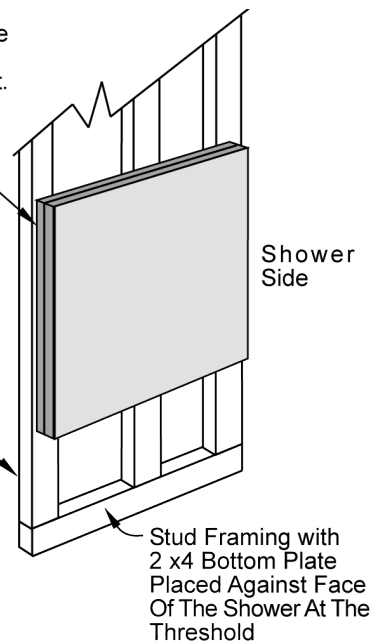

Figure 2
3. Factory wood backing is provided inside the wing wall for field installation of a fold up seat. If field installing a seat to the wing wall, Praxis recommends using wood 2 x 6 studs to support the wing wall. Metal studs may be used in other framing locations, other than the wing wall. Praxis is not responsible for structural integrity if 2 x 6 wood studs are not used for the wing wall. (See figure 2)
Locate and attach the studs to the floor, and to the top structure of the shower framing structure. The framing for the wing wall should tie in with the top framing above the shower. Keep stud work clear of the vertical flange of the shower. Provide so that top flange on the wing wall may be attached to the studs. Add wood between studs and wing wall backing if required. Fasten the components together as indicated in figure 2.